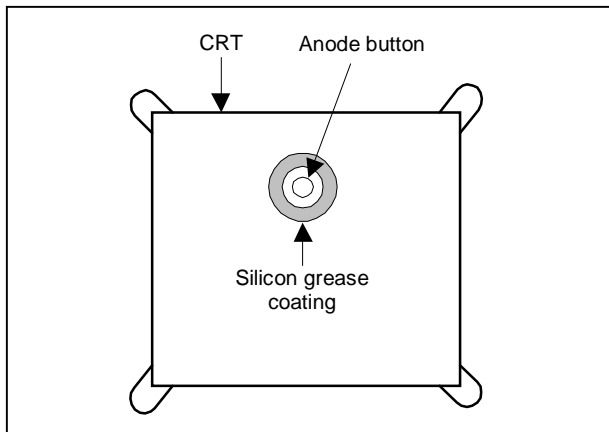
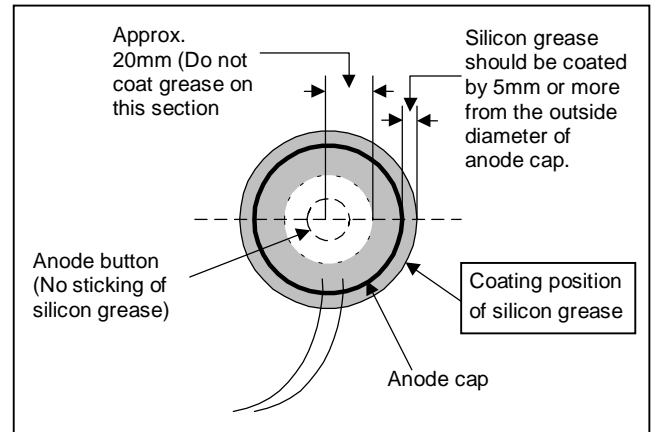

Fig. 7
Fig. 8
- Subsequent to replacement of the CRT and HV transformer or repair of the anode cap, etc. by dismantling them, be sure to coat silicon grease for electrical insulation as shown in Fig.7. Wipe around the anode button with clean and dry cloth. (Fig.7) Coat silicon grease on the section around the anode button. At this time, take care so that any silicon greases do not stick to the anode button. (Fig.8)